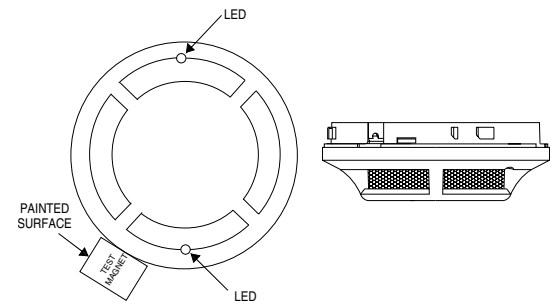

Figure 1. Bottom and side views showing position of test magnet
1. Place the magnet against the cover in the location designated by the raised mark to activate the test feature (see Figure 1).